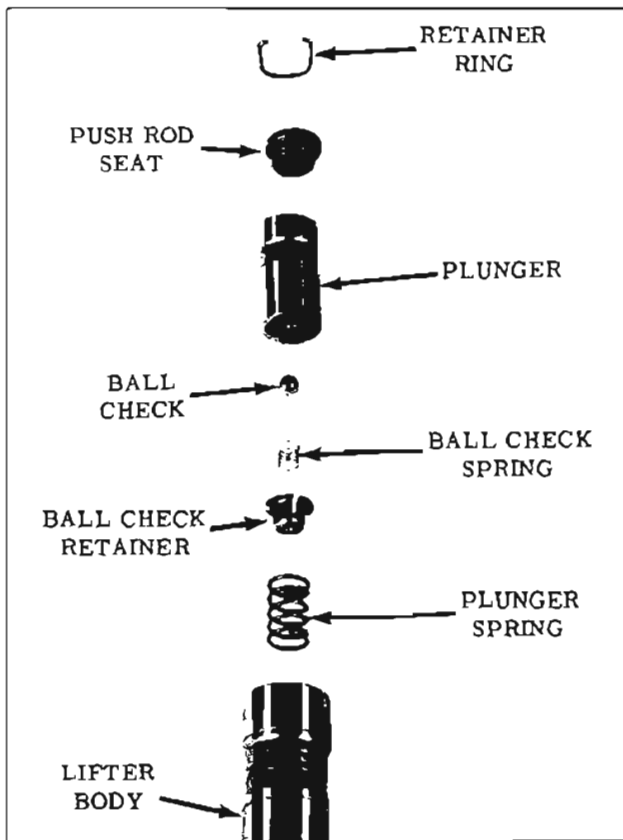

Fig. 8-113 Valve Lifter Exploded View
2. Assemble ball check and retainer into plunger. (Fig. 8-113) Make sure retainer flange is pressed tight against bottom of recess in plunger.